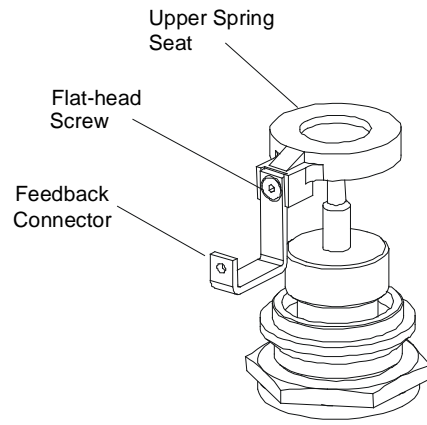

Figure 1: Upper Valve Detail
1. Referring to Figure 1, attach the feedback connector to the upper spring seat with flat-head screw, and using a 3/16 in. Allen wrench, tighten the screw to secure the assembly together.